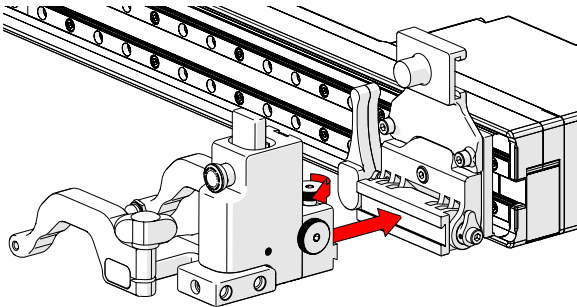

Fig. 126 - Mount probe holder to carrier
1. Loosen the probe holder adjustment knob (*Fig. 126*) and mount the heavy duty vertical probe holder's dovetail jaw to the carrier.